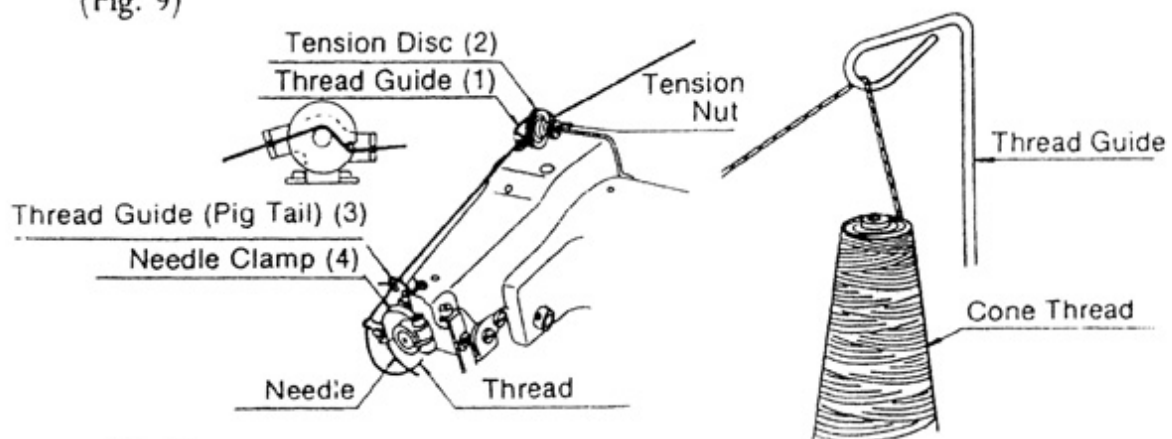

Fig. 9
5. Threading Machine (Figs. 9—12)
A. When using sewing thread from a cone, place it over plastic cup on thread stand (Fig. 9)
C. For correct threading of machine, follow carefully course of thread as shown on Fig. 9.
When reaching to thread tension device, enter thread first in rear eye of thread guide (1). Then, lead thread between the two tension discs (2) as per Fig. 9. Now enter it from behind through the front eye of thread guide. Lead thread forward to front of machine. Enter thread from above into thread guide (3), and eyelet of needle clamp (4).